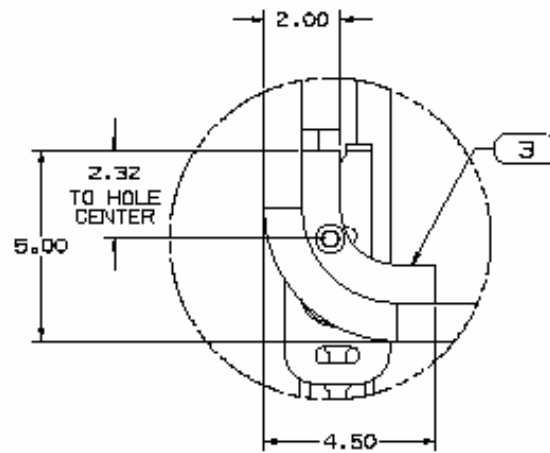

Figure 3-View A
5. Position the aisle side leg bracket. This is item 3 in Figure 3. Ensure that the bracket is flush with the bottom of the seat frame. Tack weld bracket into place.